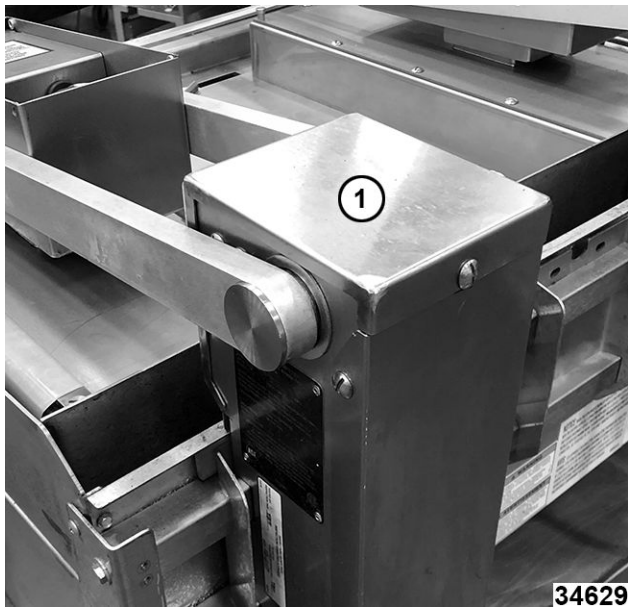

Fig. 16
1. Remove upper cover (1, Fig. 16) from rear assembly.